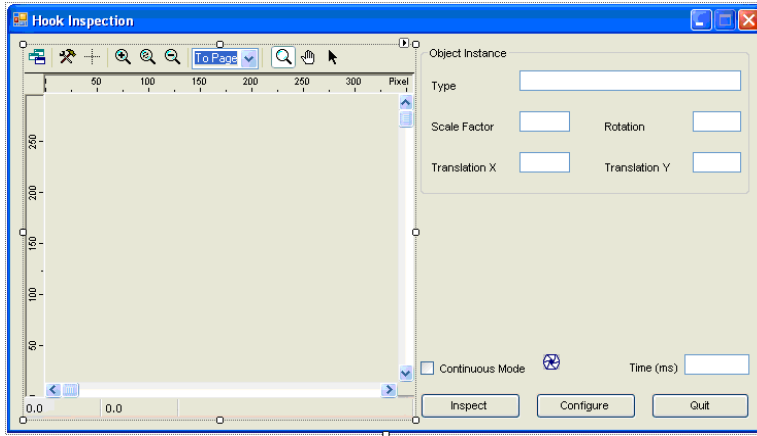

Figure 95 C# Form for Tutorial 2
3. Click the **HSDisplay Control** icon and drag a small box on the form. Set the width to 378 and height to 365. The default name is `axHSDisplay1`. Rename it *ApplicationDisplay*. The interface of the project is now complete and should look like the form in Figure 95.